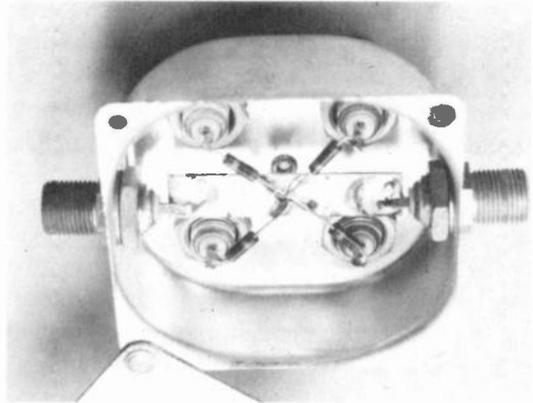

FIGURE 26-5 FOUR-WAY MULTITAP WITH COVER OFF. WIDTH IS 4 IN. NOTE ISOLATION RESISTORS.
**Tapoffs.** A four-way tapoff with isolating resistance in each branch is shown in Fig. 26-5. Each tap can be considered as a series voltage divider. As an example, when  $1,125 \Omega$  is in series with  $75 \Omega$ , the total equals  $1,200 \Omega$ . The  $75 \Omega$  of the cable is then  $1/16$  of  $1,200 \Omega$ . Therefore, the tapoff provides  $75/1,200 = 1/16$  of the trunk signal to a  $75\text{-}\Omega$  cable. Typically, the fraction of signal tapped off is  $1/4$  to  $1/16$ . The corresponding losses are  $-12$  to  $-24$  dB.